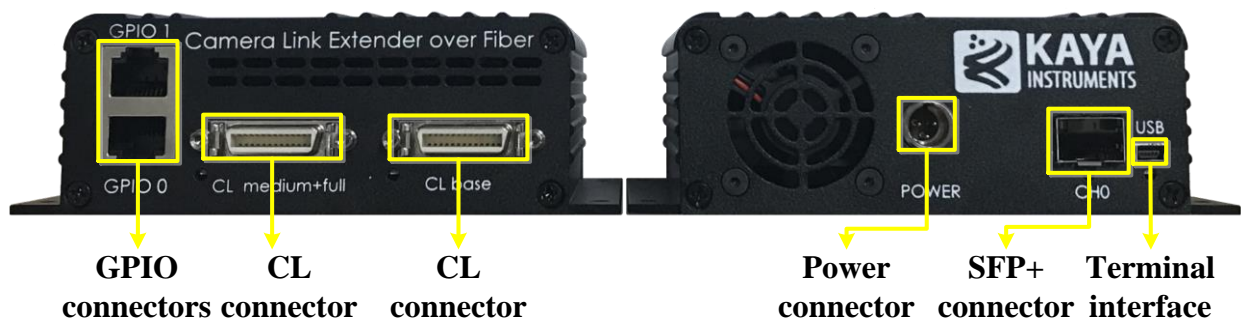

Figure 4 : KY-CL2F-D external view
Each **KY-CL2F-D** unit is housed in a compact, metal enclosure. Each unit has a power connector, 2 Camera Link connectors (MDR), SFP+ cage, 2 x RJ45 connectors for GPIO and a Mini USB Terminal interface, as shown in Figure 4.
3. The power supply connector of the **KY-CL2F-D** unit shown in Figure 4.